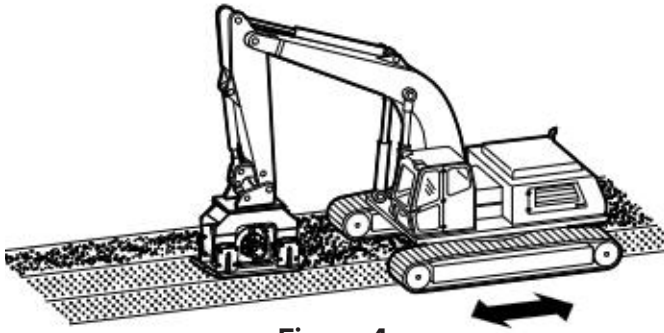

Figure 4
- Move the host machine in a straight line when the attachment is in operation. See Figure 4.